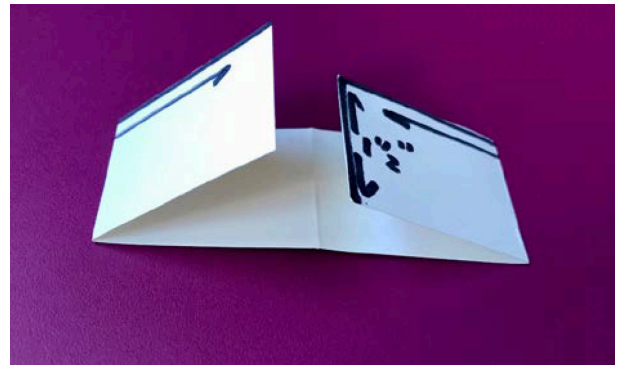

Figure 6: Fold both ends up to the middle.
- Open and then fold either side in half again so that both edges come up to the crease. See Figure 6.